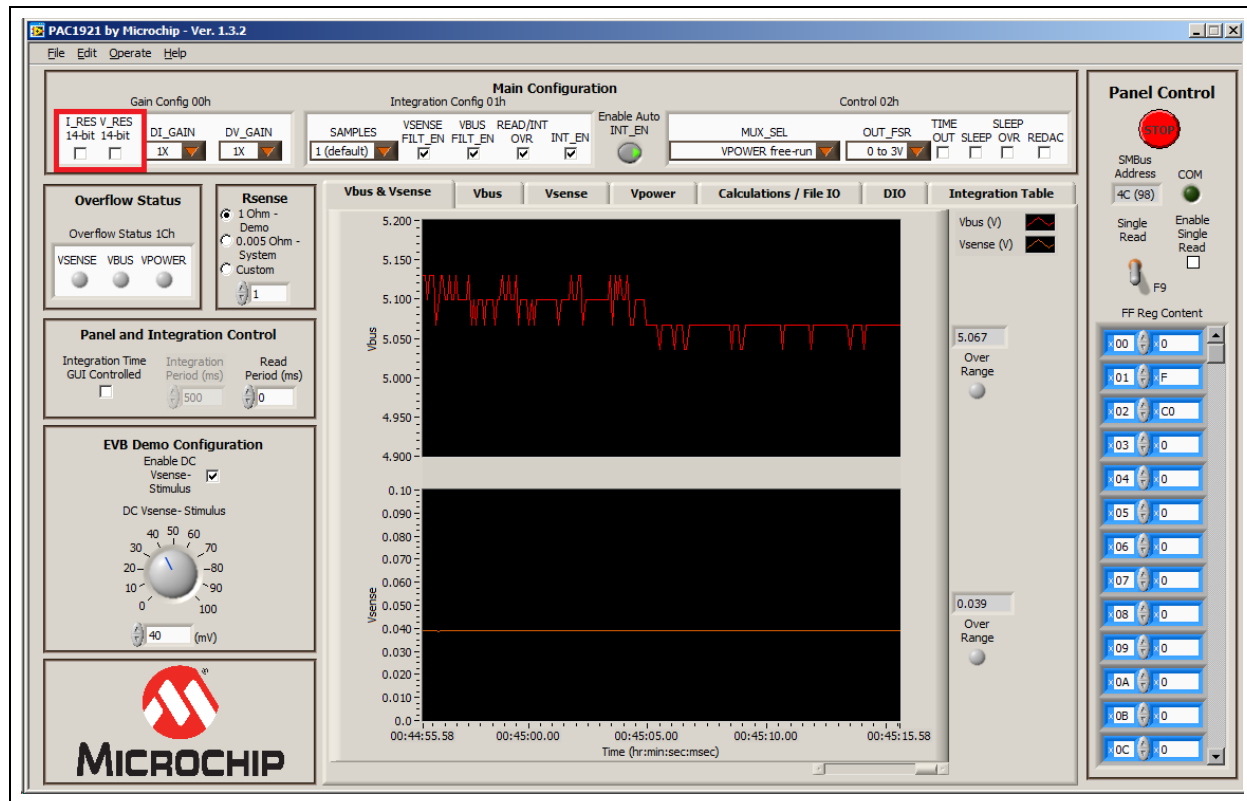

FIGURE 4-24: Free-Run Integration with 14-Bit Resolution.
- Uncheck the "I_RES" and "V_RES" boxes to enable 14-bit resolution, and observe the improvement in the plots on the **Vbus & Vsense** tab, as shown in Figure 4-24.